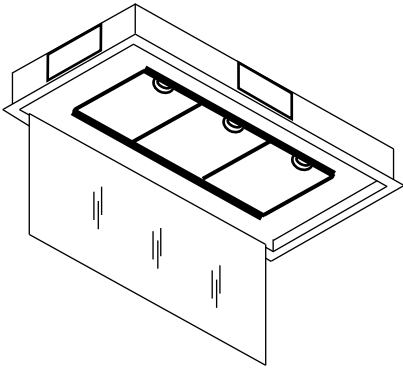

Fig 4
1. Pull down the glass panel to reveal the grease filters (**Fig 4**).